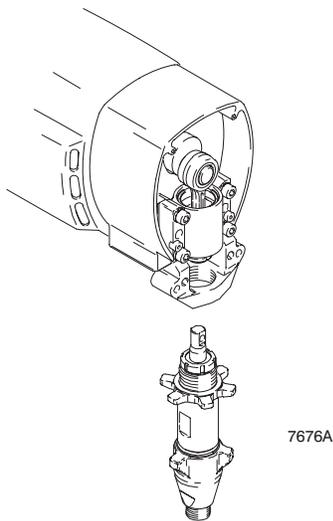

Fig. 16
1. Fig. 16. Pull piston rod out 1.5 in. Screw in pump until holes in bearing cross link and piston rod align.